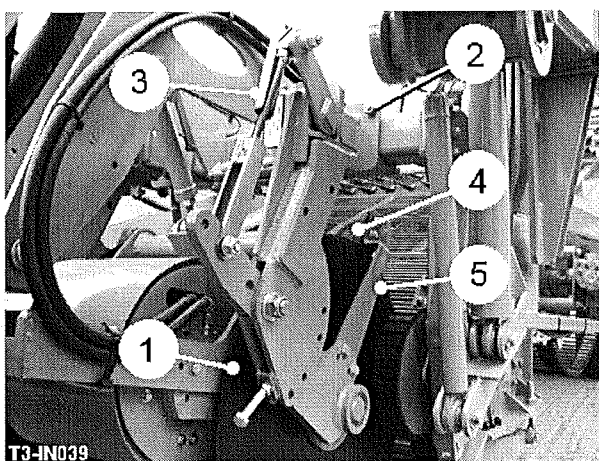

Fig 5
On three row work the harvester is fitted with six disc coulters (item 1, fig 5). On full width bed work the harvester is fitted with two disc coulters. The discs run on either side of the ridge, cutting and parting the haulm and trash in front of the shares whilst at the same time containing the ridge and feeding it over the shares onto the digger web.
To set the disc coulters row width/cutting width, release the clamp bolts (item 2, fig 5) and slide the disc assembly along the bridge beam to the required position. When correctly set the discs should be approximately 20mm clear of the edge of the share blades. To set the disc coulters depth, turn the adjusting handle (item 3, fig 5), which also increases the spring load on the disc. The disc coulters are each fitted with two scrapers (item 4 & 5, fig 5). These should be set as close to the disc as possible without fouling it.